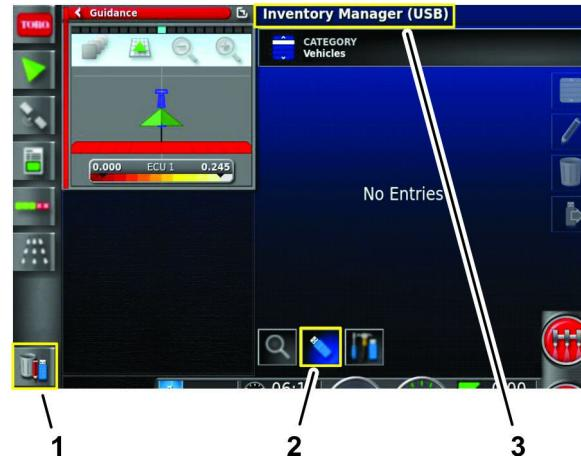

Figure 97
4. If the title at the top of the screen states Inventory Manager (USB), press the Switch View icon (Figure 97).